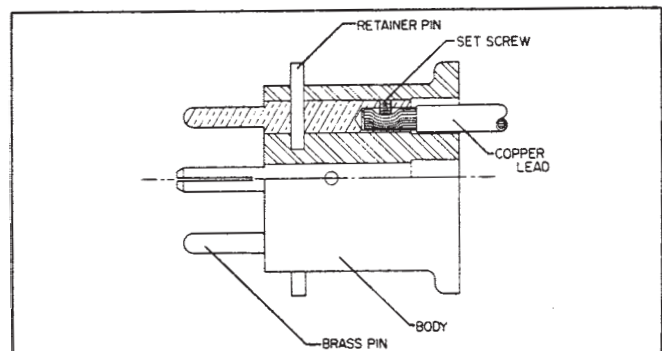

Figure 1
To assemble and wire the load disconnect plug, proceed as follows (see Figure 1):
6. Insert the retainer pin, and tap it firmly into place. The retainer pin will protrude approximately 3/8" when fully seated. (See Figure 1.)